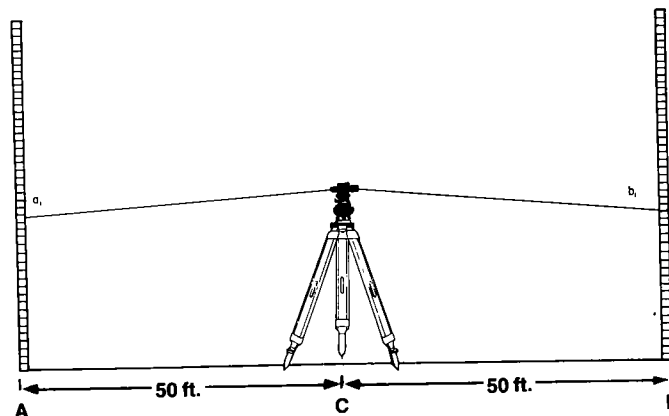

Figure 21
1. Set 2 level rods 100 feet apart at points A & B (see Figure 21).